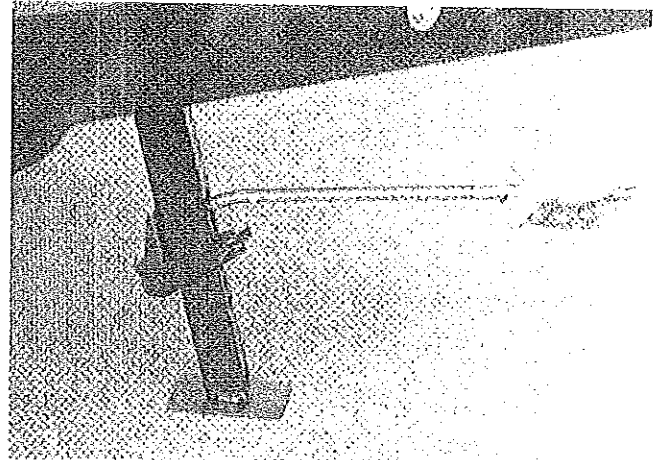

FIGURE 12
3. Remove the stabilizer jack handle from the recommended storage location within the access door. Making sure the handle is inserted through the rear hole, apply downward pressure to extend the inner legs of the stabilizer jacks to stabilize the trailer. See Figure 12.